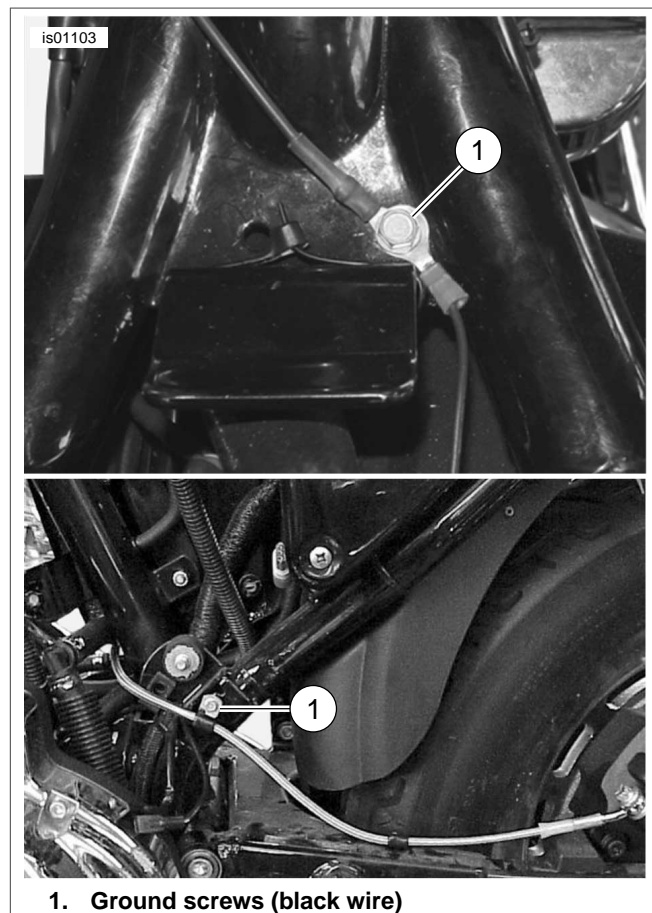

Figure 4. Ground Connections (Sportster Models)
3. See Figure 4. Remove the ground screw (1), located: